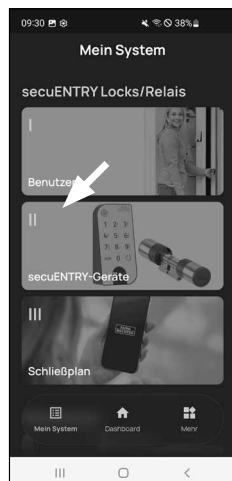

Fig. 1
- 1 Tap on the second menu item "II - secuENTRY Units" (Fig. 1).